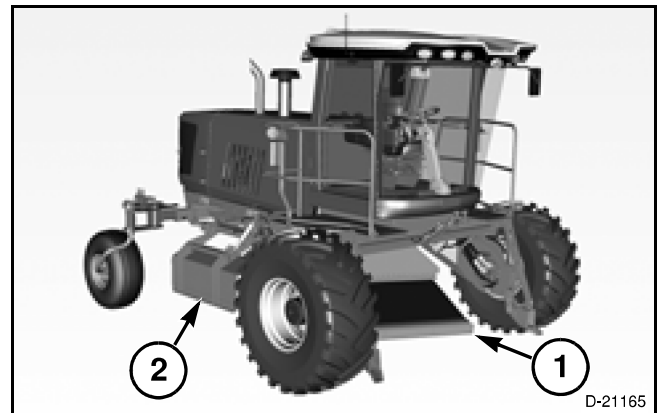

FIG. 13
FIG. 13: The double windrow attachment is used to put two windrows together. A draper conveyor (1) is mounted under the windrower tractor frame. The draper conveyor catches the crop from the hay conditioner. An adjustable deflector (2) at the right-hand end of the draper conveyor controls the distance the crop is put from the machine.